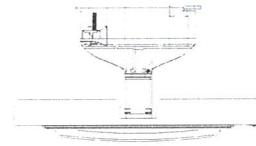

Figure 5
- ☞ The ceiling mounting bracket is for the use of ceiling mounting type. (Figure 5)